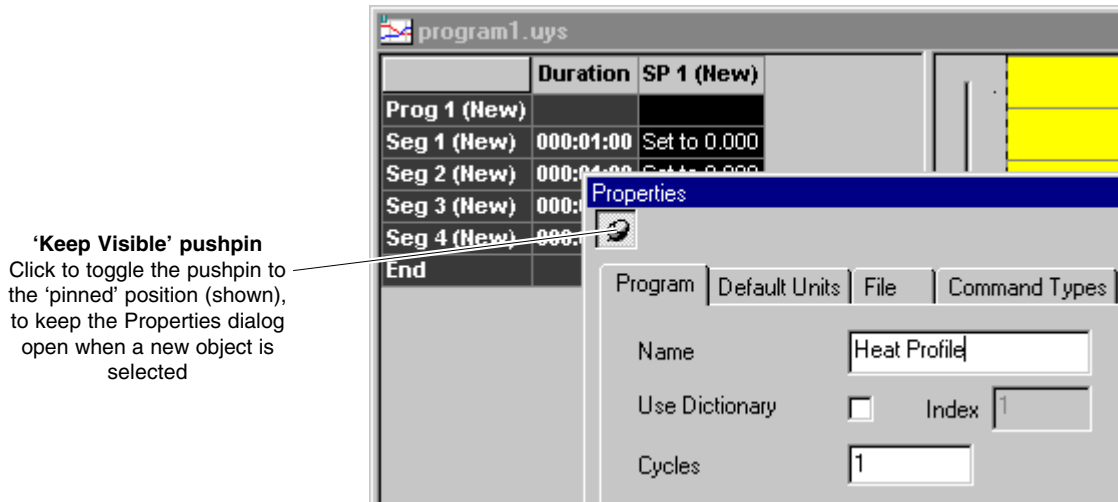

Figure 3-3 Properties dialog for ‘Prog 1 (New)’
- 3 Double-click the default **Prog 1 (New)** cell near the top-left corner of the window to pop up the **Properties dialog** for this object (Figure 3-3). On the **Program** page of the dialog, edit the program **Name** to ‘**Heat Profile**’ and hit the Computer’s <Return> key to enter the data. The dialog should stay open if you have set the ‘Keep Visible’ pushpin to ‘pinned’ (as in the figure).